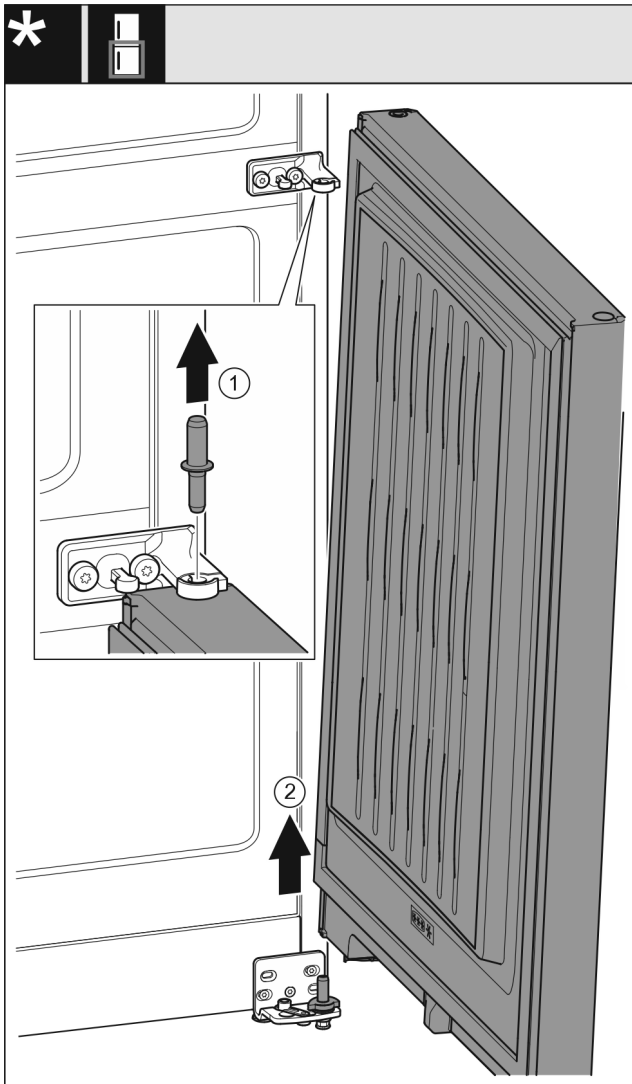

Fig. 31 Without closing damper*
- Pull out the bolt Fig. 31 (1) upwards.*
- Swing out the door Fig. 31 (2), pull it upwards and set it aside.*